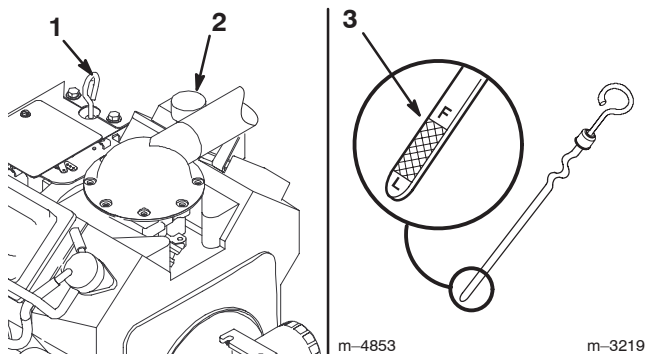

Figure 60
2. Clean around the oil dipstick (Fig. 60) so dirt cannot fall into the filler hole and damage the engine.
3. Pull the oil dipstick and wipe the metal end clean (Fig. 60).
4. Slide the oil dipstick fully into the filler tube (Fig. 60). Pull the dipstick out and look at the metal end. If oil level is low, slowly pour only enough oil into the filler tube to raise the level to the full mark.
5. Slowly pour approximately 80% of the specified oil, on page 36, into the fill opening (Fig. 60). Now check the oil level; refer to Checking Oil Level, page 36. Slowly add additional oil to bring to full mark on dipstick.